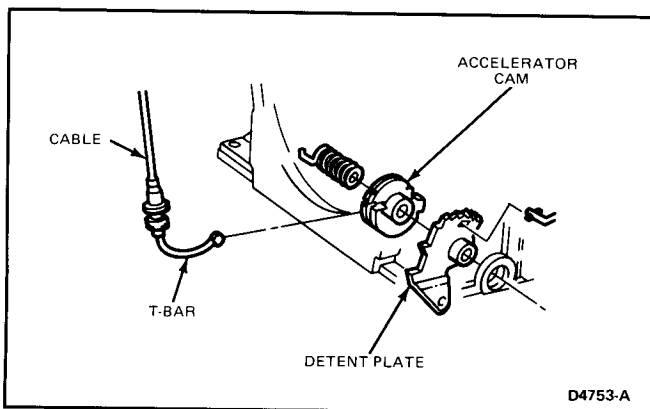

FIG. 24 Kickdown (TV) Cable (At Transmission)
- Unhook the T-bar end of the cable from the accelerator cam and remove the cable (Fig. 24).
1. Install the T-bar end of the cable to the accelerator cam (Fig. 24).